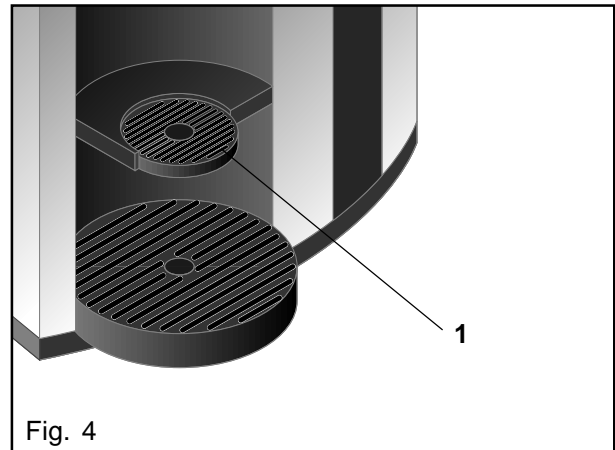

Fig. 4
- When the pot is removed the cup carrier (1) automatically swings back into its original position. (Fig. 4)